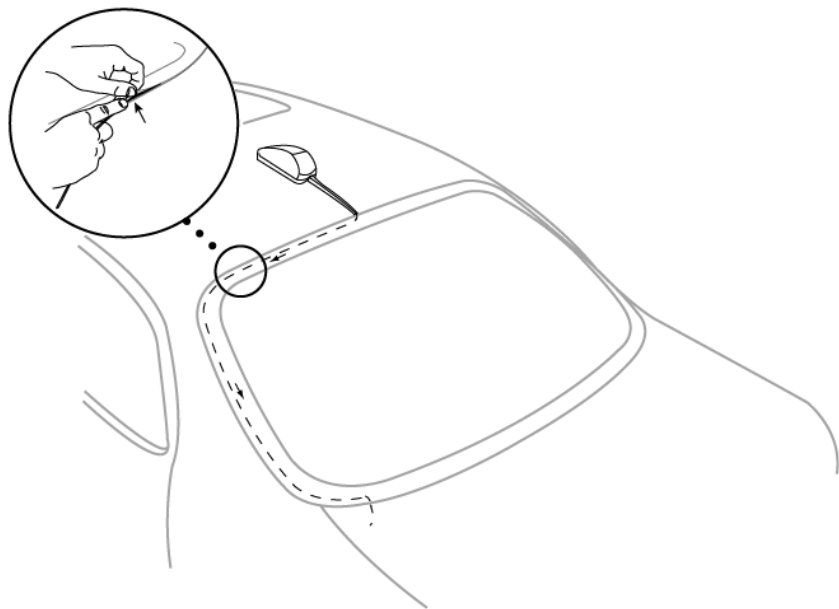

Figure 7 - Routing the Antenna Cable
1. Route the antenna cable from the antenna mounting position to the interior of the vehicle, working the cable under the rear window molding. (See Figure 7, Routing the Antenna Cable)